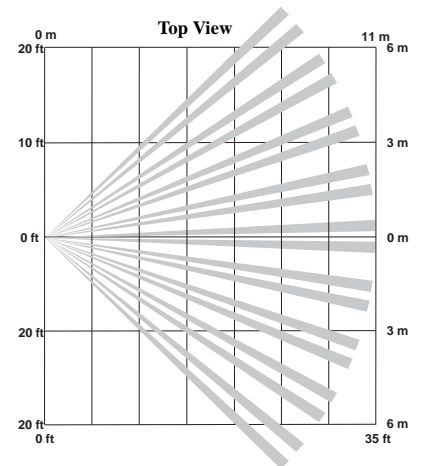

Figure 2. Top View Lens Coverage Area
- The recommended mounting height is 7 1/2 feet, but the sensor can be mounted from 5 to 8 feet high in the corner of the area you want to protect. See the animal alley lens guidelines for mounting the optional animal alley lens. Higher mounting provides better range (up to 35 feet), and lower mounting provides better protection close to the motion sensor (see Figures 2 and 3). The optional swivel mount (part #60-737) can be used for difficult mounting locations.
- The sensor's coverage area is shown in Figures 2 and 4.
The optional animal alley lens (part #60-709) provides protection in installations where pets move about freely. See Figures 2 and 4 for coverage.